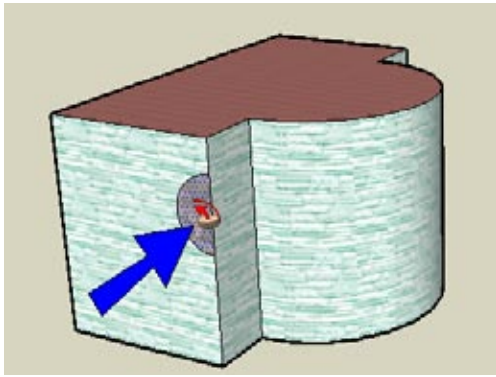

Figure 2-4
3. Click the Follow Me face (Figure 2-4).